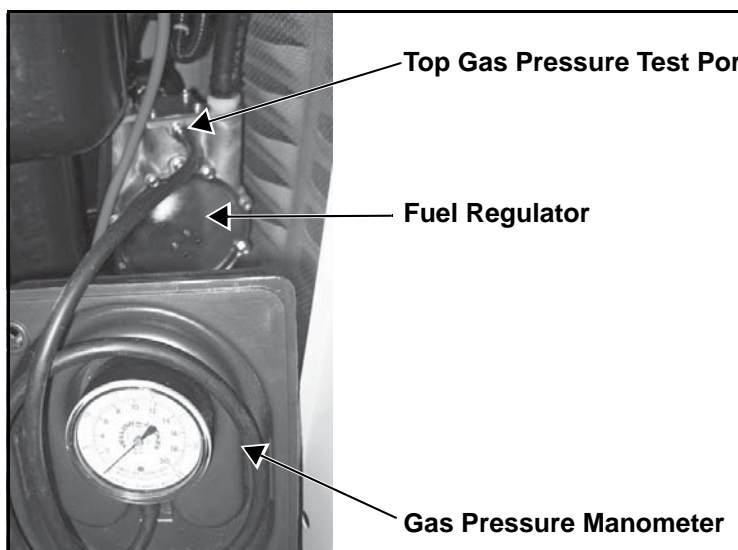

Figure 5-5. Checking Pressure with Manometer
- Remove the top gas pressure test port from the regulator, and install the gas pressure tester (manometer). See Figure 5-5.